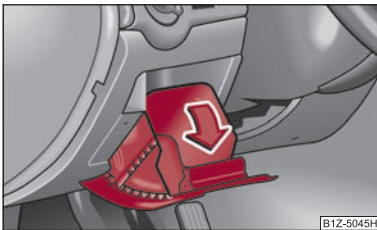

Fig. 90 Dash panel: Storage compartment on the driver's side
- The storage compartment is opened by lifting the handle and folding open in the direction of arrow ⇒ fig. 90.